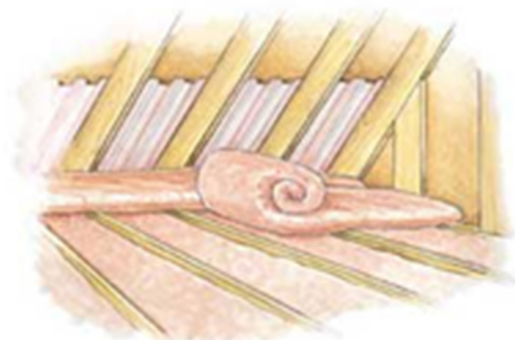

Figure 2. Batt insulation added to an unfinished attic
6. **Insulation.** Now you're ready to either roll out the batts or install the loose-fill. You may want to use some of both, putting batts in the straight-a-ways and loose-fill in the nooks and crannies. Buy batts wide enough to snugly fit between the attic framing members. First fill the joist spaces, and then roll out a second layer on top, perpendicular to the first (*Figure 2*). Be sure to place the batts as close together as possible. If you opt for loose-fill insulation, make sure to install it level. If you plan to add loose-fill above the height of the joists, attach marked wooden sticks to the joists to serve as depth markers.